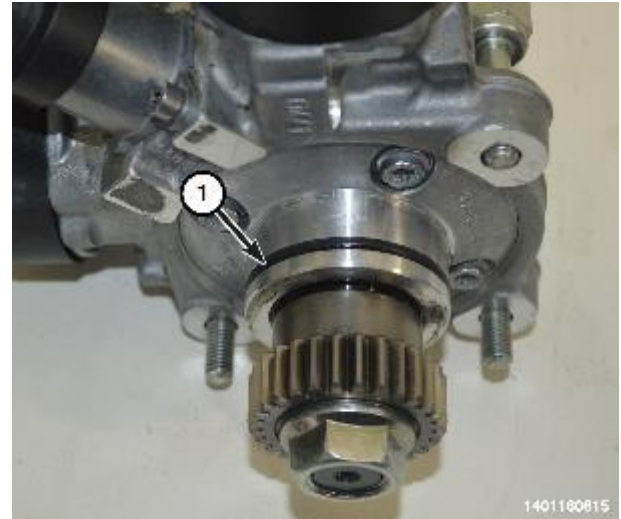

Figure 195 – O-ring
- 39. Install a **NEW** O-ring (1) to the high-pressure fuel injection pump (Figure 195).